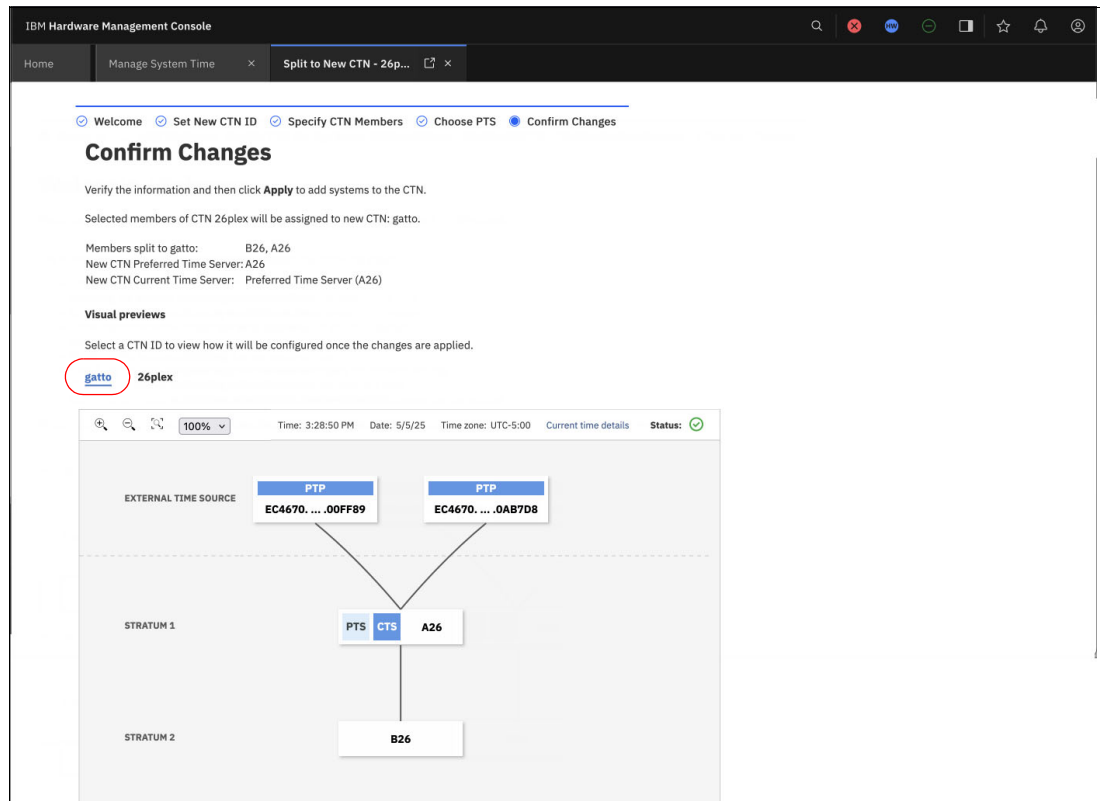

Figure 5-12 New CTN configuration
Configuration (diagram) of the new CTN is shown in Figure 5-12 on page 118.
- After the CTN split is successful, you can view the new CTN in the Manage System Time task window. See Figure 5-12 on page 118.